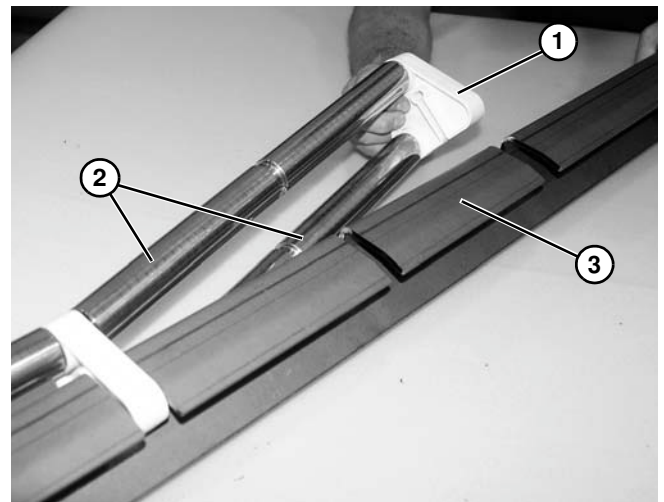

Figure 136
10. Continue removing nose bar pucks (Figure 136, item 1) and spindles (Figure 136, item 2) from crossmember bracket (Figure 136, item 3).